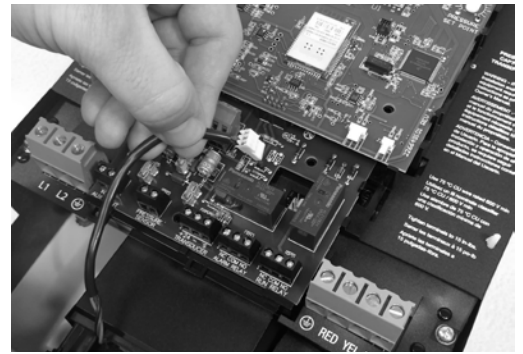

Figure 1
3. Disconnect the fan cable (Figure 1).